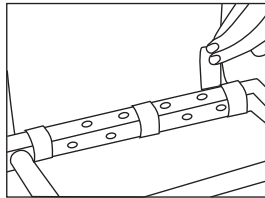

Fig 1
2. Rewrap them tightly around the top bar main frame behind the handle of the cart (Fig 1).